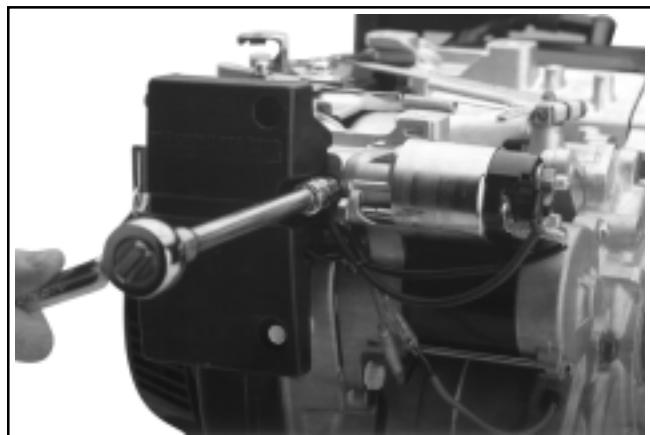

Figure 9-28. Removing Control Panel Screws on CS8.5 (spec. 95xxxx).
3. On CS8.5 (spec. 95xxxx) remove the two screws securing the control panel and mounting bracket for the electrical components. See Figure 9-28.